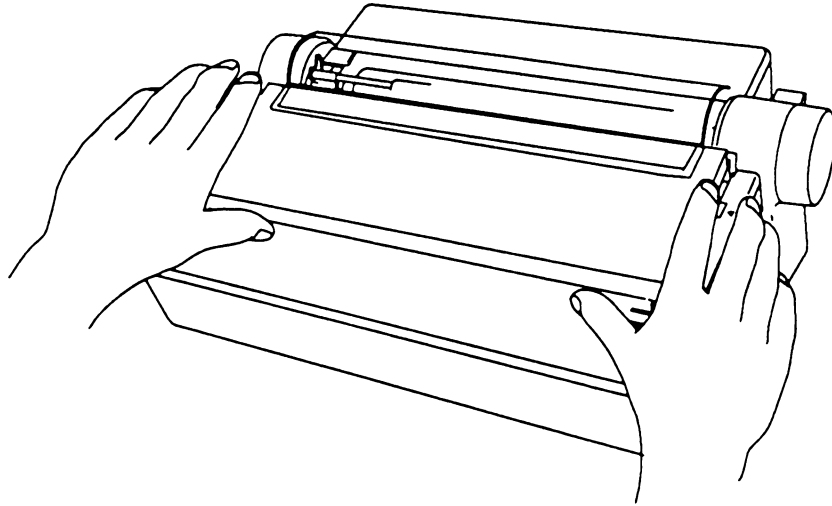

Figure 1. Removing the front cover
4. Take off the front cover by grasping its sides (at the arrow icons) and lifting upward, as shown in Figure 1.